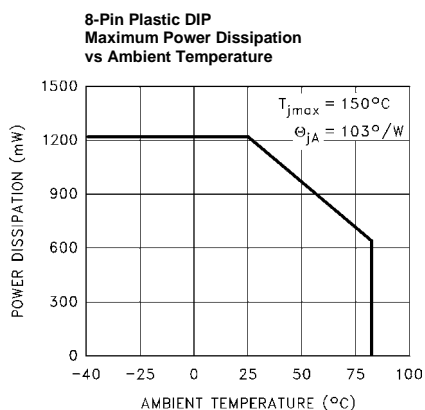

FIGURE 4.
- Bandwidth is guaranteed using the squaring mode test circuit of Figure 4.
Power Dissipation (See Figures 4 and 5)	$\text{PWR} = (+V_S - (-V_S)) \times (4\text{mA} + I_Z \times 26.5)$